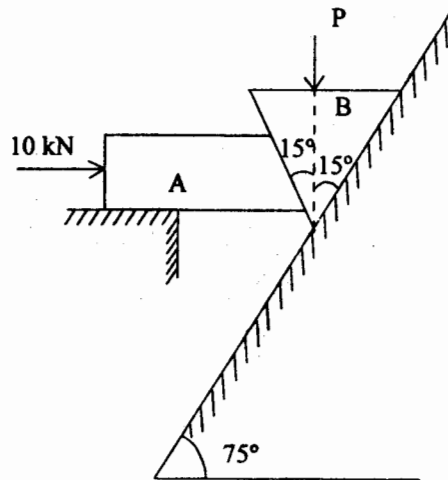

Fig. 1
- (a) Fig. 1 shows a wedge B held between the block A and the surface C. A horizontal push of 10 kN is acting on the block 'A'. Find the vertical force 'P' on the wedge B so as to just move it downward. Assume coefficient of friction as 0.3 for all the surfaces of contact.